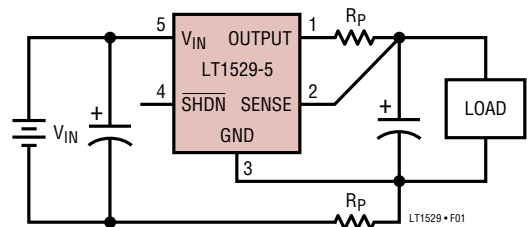

Figure 1. Kelvin Sense Connection
**SENSE (Pin 2):** SENSE Pin. For fixed voltage versions of the LT1529 (LT1529-3.3, LT1529-5) the SENSE pin is the input to the error amplifier. Optimum regulation will be obtained at the point where the SENSE pin is connected to the output pin. For most applications the SENSE pin is connected directly to the OUTPUT pin at the regulator. In critical applications small voltage drops caused by the resistance ( $R_P$ ) of PC traces between the regulator and the load, which would normally degrade regulation, may be eliminated by connecting the SENSE pin to the OUTPUT pin at the load as shown in Figure 1 (Kelvin Sense Connection). Note that the voltage drop across the external PC traces will add to the dropout voltage of the regulator. The SENSE pin bias current is 15μA at the nominal regulated output voltage. This pin is internally clamped to -0.6V (one  $V_{BE}$ ).